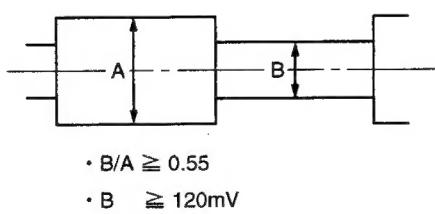

Fig. 2-7-12 Envelope output and output difference
- In recording/playback the tape with a E-180, the video envelope should meet the specification as shown in Fig. 2-7-12.